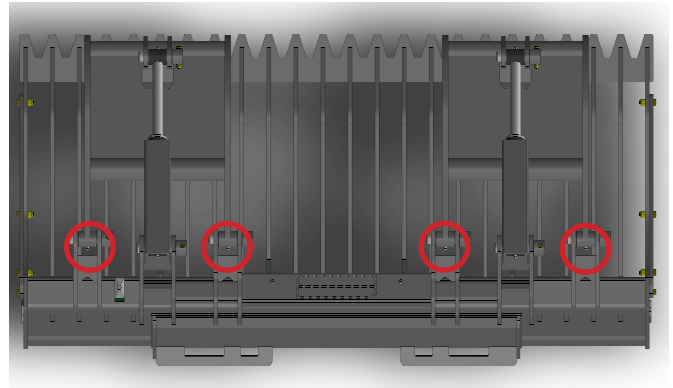

Figure 1
The Heavy Duty Rock Bucket Grapples have four (4) grease points. These points are circled in Figure 1.